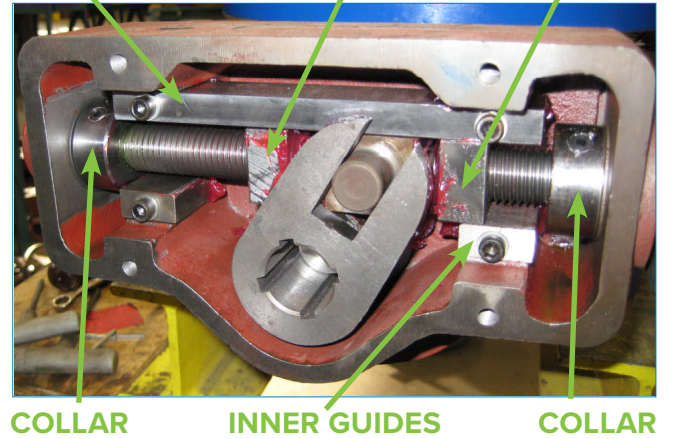

FIGURE 2: REMOVAL OF GUIDES
2. See Figure 2: Remove the inner and outer guide bars. For the TNA-D (valves 14" through 20"), the valve has to be fully opened to remove the outer guide.